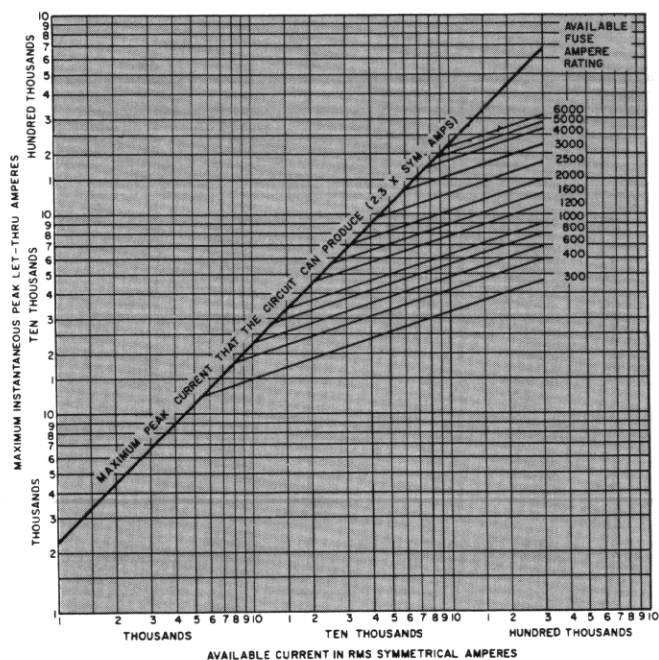
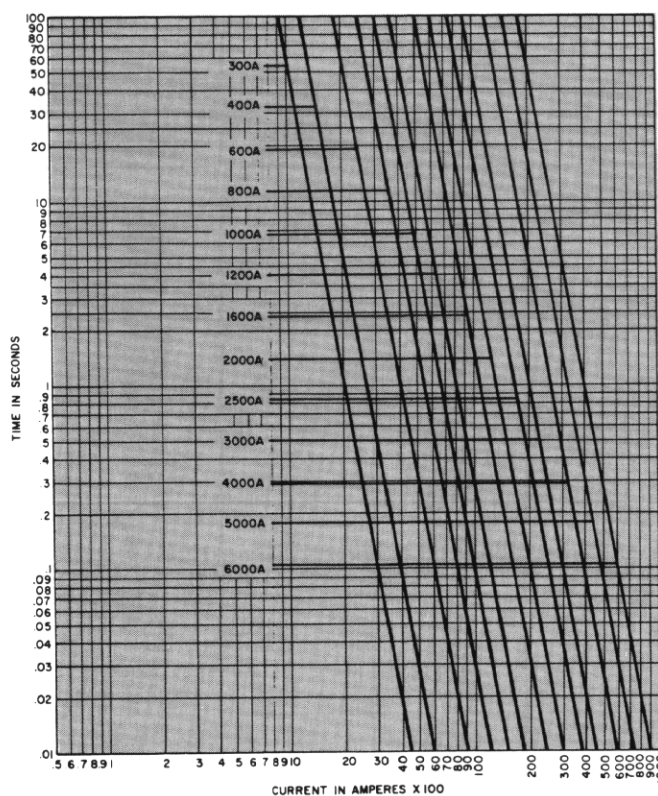

Figure 1
Figure 2
Figure 1 is a second aid in the selection of the proper Amp-Trap fuse sizes. However, Figure 1 is not to be used as the only criterion if, as in this case of molded-case circuit breakers, there is an I²t limitation in the equipment to be protected by the fuse. (See Figure 2.)
1. The peak let-through current must not exceed the withstand capability of the equipment to be protected by the MBD circuit breaker. (a) If the equipment protected by the circuit breaker has a peak current withstand capability at least equal to that of the circuit breaker, fuse size selection may be made by using Table 36. (b) If the equipment protected by the circuit breaker has a peak current withstand capacity less than the circuit breaker, Figure 1 must be used to determine the maximum fuse size.
Draw a vertical line on Figure 1 representing the available symmetrical RMS amperes. Establish the intersection of this line with the peak amperes that the equipment is capable of withstanding. The fuse size represented by the fuse let-through curve passing below this intersection is the maximum fuse size that should be used. Of course, the smallest fuse size, consistent with coordination, provides the best protection.
When it is desired to plot specific coordination curves, the following procedure is suggested: (a) Replot the overcurrent device curve using actual amperes as the abscissa based on range selector amperes and pickup settings selected. The curves may be moved right or left to accommodate settings not plotted on published curves. A transparent overlay is helpful in this procedure. (b) Enter the fuse-melting time-current curve from Figure 2 on this newly plotted overcurrent device curve and examine for proper coordination. (c) When fuse size is dictated by protection needs, the fuse curve should be plotted first, and the
To illustrate the use of Figure 2, assume a fault current of 80,000 A symmetrical using a 300 A current-limiting fuse. Enter the table at 80,000 A sym. and project to the intersection of this line with the curve for the 300 A fuse, then project this point horizontally to a value of 30,000 peak let-through amps.